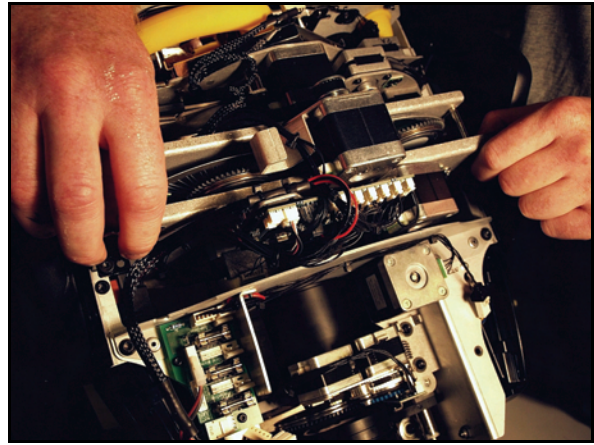

Figure 25: Projection module removal
- See Figure 25. Lift the projection module out of the head and place it with the motors facing down on a work surface.